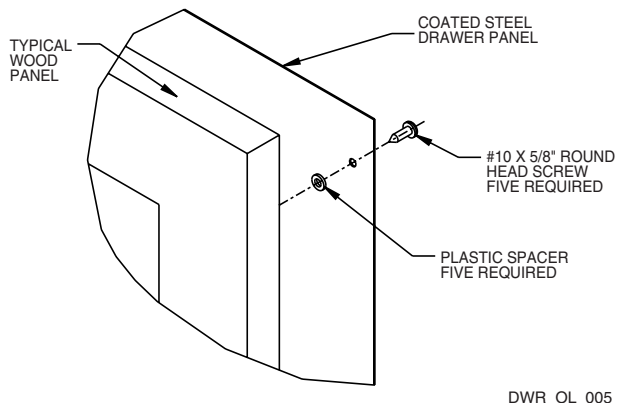

Figure 12
6. Attach the drawer panel to the wood panel using #10 x 5/8" (P/N 42121) wood screws and nylon spacers (P/N 42120). The nylon spacers fit between the wood panel and the drawer panel as shown (Figure 12).